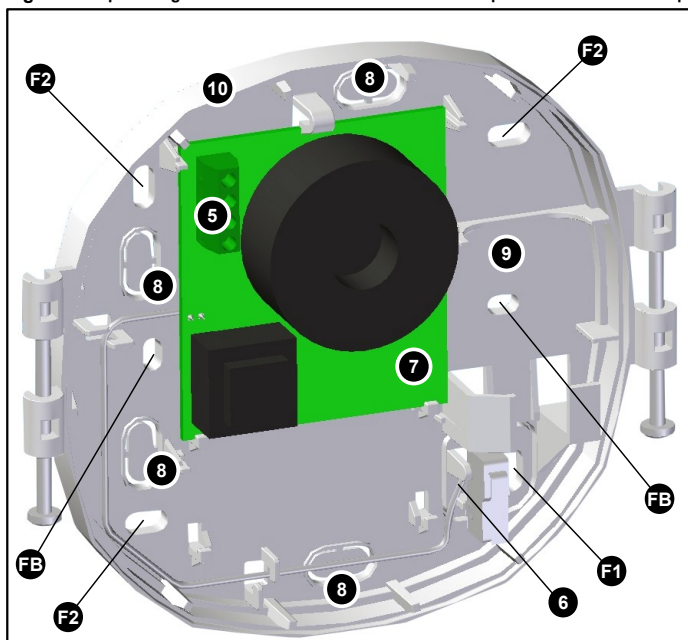

Fig. 2 - Particolare del fondo / Detail of the backplate
- Place the backplate of the siren on the wall and mark the reference holes: mark the **F1** hole (lower right to activate the wall tamper function) and another by choosing one of the **F2** holes (see fig. 2).
- The two central **FB** holes (fig. 2) are set-up for the siren to be installed on a recessed electrical box; in this case, mark the **F1** hole (lower right to activate the wall tamper function) and another by choosing one of the **FB** holes.
- Pass the connection cable through the holes (ref. **8**, pre-cut) on the backplate (fig. 2).
- Only mod. NEMO-L:** place the backup battery in its housing (ref. **9**, fig. 2) and connect as described in par. 2.4.
AS	Anti-tamper. The AS terminal blocks are interconnected when micro switch 6 (fig. 2) is closed; and disconnected when micro switch 6 is open.
2. Rimuovere il ponticello JP2 della batteria (rif. **9**, fig. 2) e rimuoverla dal suo alloggiamento.
2. Remove the jumper JP2 of the battery (ref. **9**, fig. 2) and remove it from its housing.